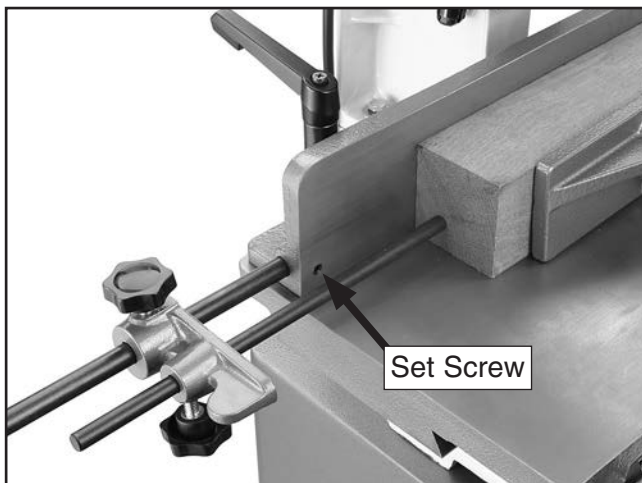

Figure 17. Using the extendable workstop.
3. Loosen the lock knobs on the extendable workstop and slide the smaller rod against the end of the workpiece as shown in **Figure 17**, then tighten the lock knobs.